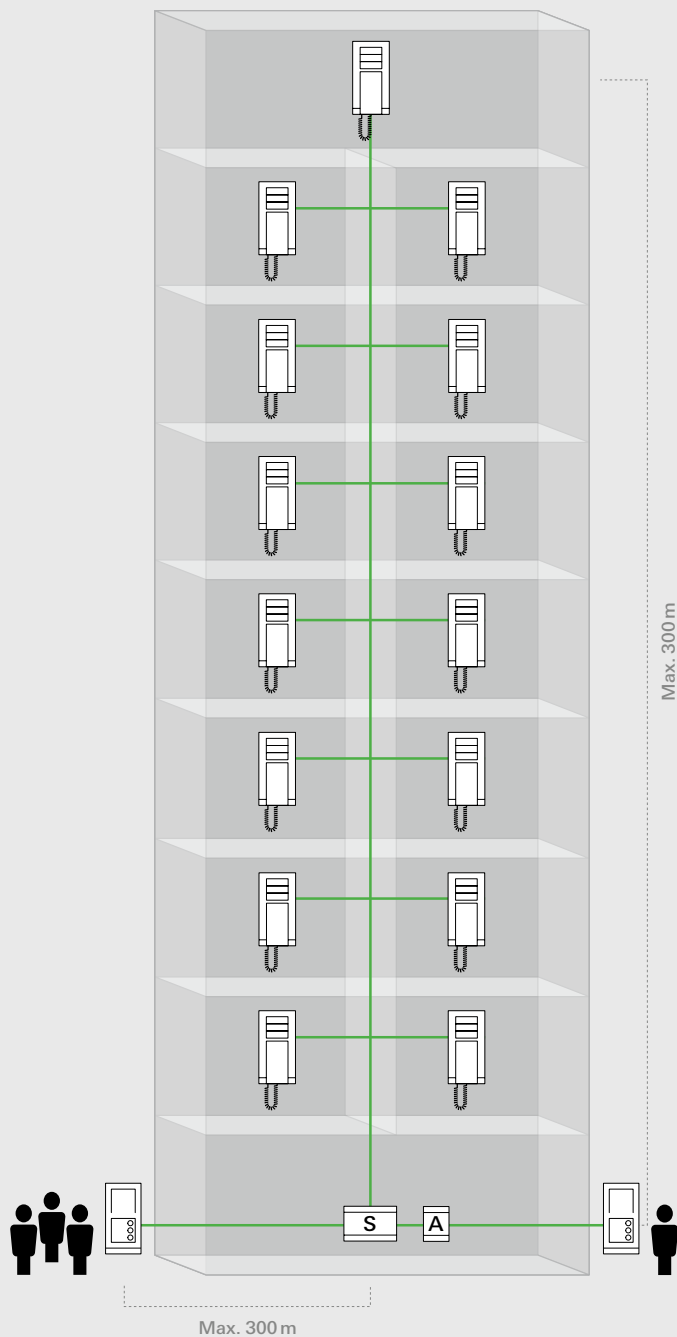

Fig. 18
**Multifamily houses with 15 private apartments, in each apartment: one ABB-Welcome audio indoor station with handset** **Fig. 18**